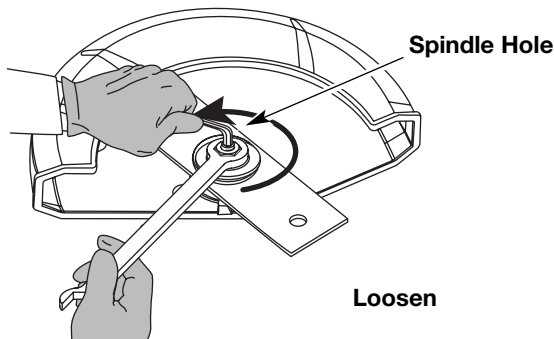

Fig. 15
1. Place the 5/16" Allen wrench in the spindle hole (Fig. 15).
2. While holding the Allen wrench in place, loosen the nut with a 15/16" wrench by turning it counterclockwise (Fig. 15).